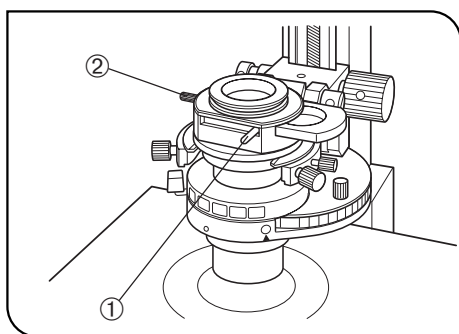

Fig. 68
(Fig. 68)
2. Slide the polarizer detaching lever ① on the IX-LWPO polarizer unit to engage the polarizer in the light path. (Fig. 68)
4. Slide the polarizer rotation/clamping knob ② on the polarizer unit horizontally in the counterclockwise direction around the axis until the position with which the field of view is darkest. (Fig. 68)